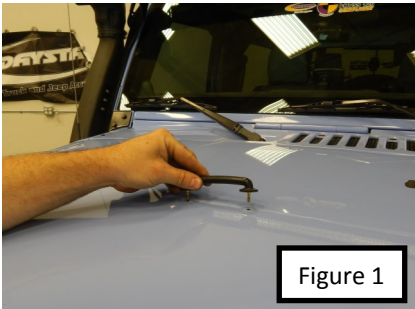

Figure 1
2. Remove footman loop (Figure 1).